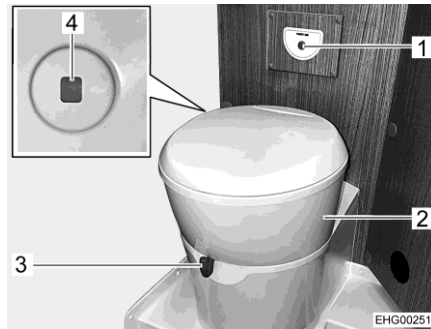

Fig. 129 Toilet
The toilet bowl can be rotated into the required position. In order to do this, grab the toilet's upper part (Fig. 129,2) with both hands and rotate it.
The operating unit with the flush button (Fig. 129,1) is installed near to the toilet bowl.
The colour of the level indicator (Fig. 129,4) changes from green to red whenever the sewage tank has to be emptied.
- Before flushing open the sliding trap of the toilet. To do this, push the slide lever (Fig. 129,3) in an anticlockwise direction.
- For flushing, press the blue flush button (Fig. 129,1).